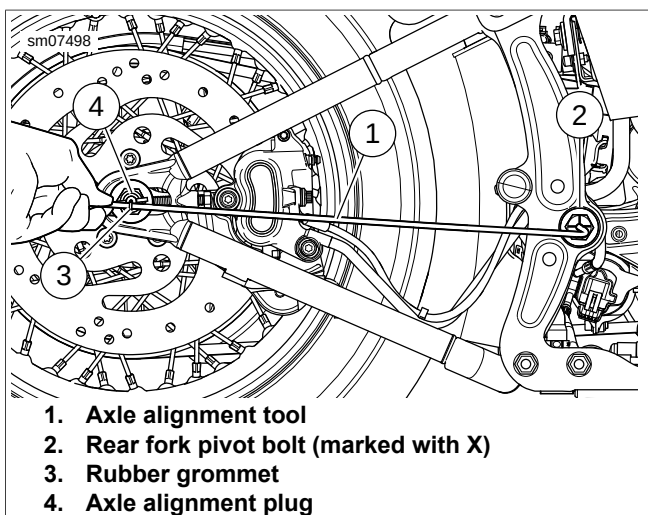

Figure 2-42. Checking Alignment Using Axle Alignment Tool
- b. See Figure 2-42. Place blunt point of alignment tool (1) in the center of the X marked on the rear fork pivot bolt (2).
- c. Slide rubber grommet (3) along tool shaft until it aligns with hole in center of alignment plug (4).